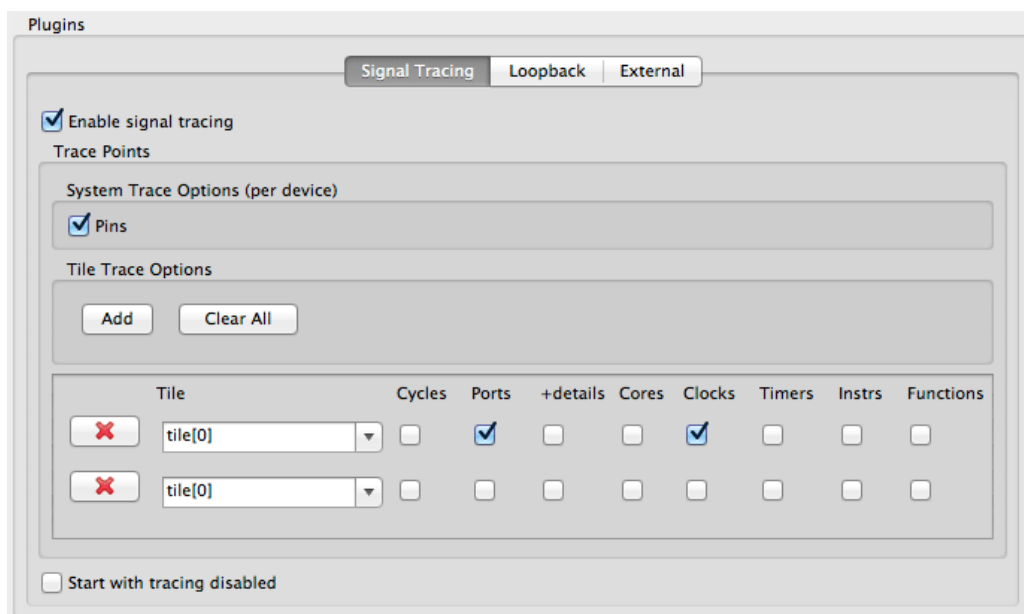

Figure 5: Screen capture showing simulator tab
5. Click the **Add** button, check the **Ports** checkbox and click **Apply** (Figure 5).